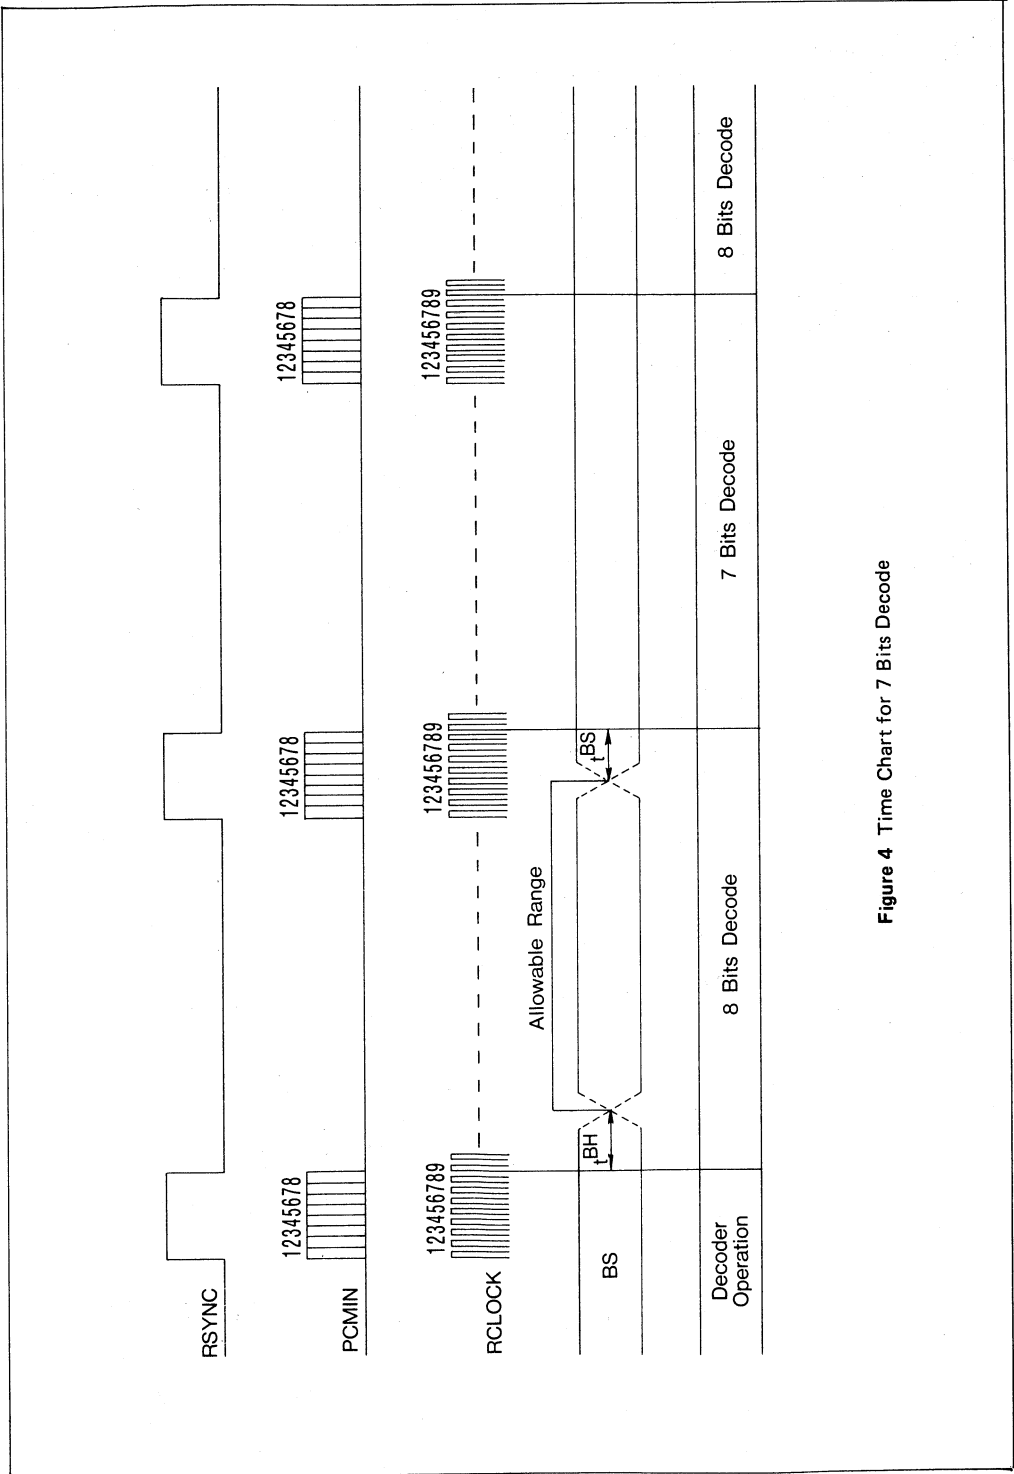

Figure 4 Time Chart for 7 Bits Decode
**Note:** A positive or negative transient of BS signal provides a 7 bits decode operation. (Refer to Fig. 4)